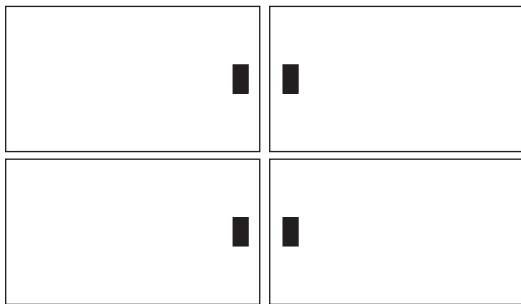

Figure 16
Install (4) solar panels with all 4 power converters on the back facing the middle of the array for easy panel interconnection. Figure 16